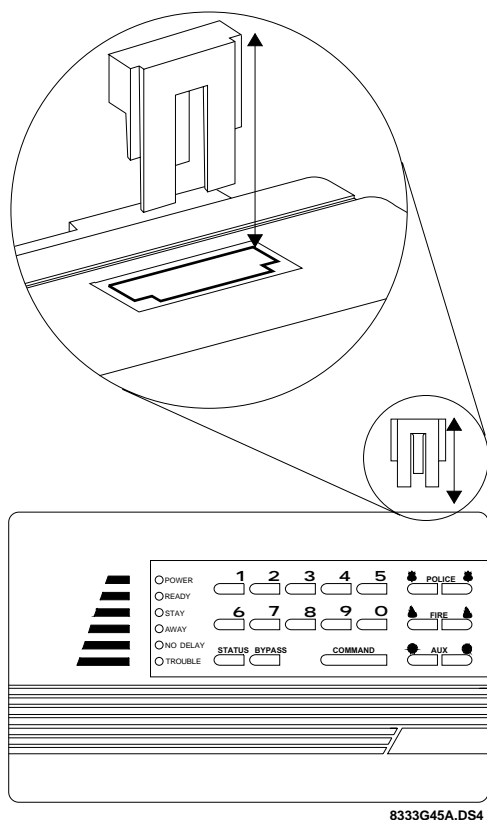

Figure 20. The Magic Key Cover and Location on Panel
- 4) Lift the cover out of the slot (see Figure 20).
- Insert the cover into the slot (see Figure 20). The retainer tab holds the cover in place.